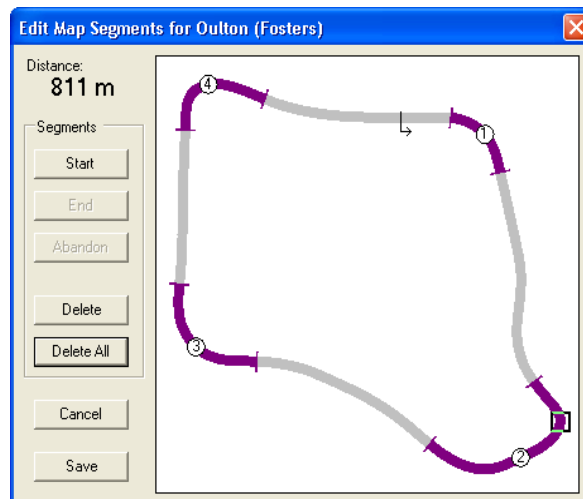

Figure 26 - Edit Map Segments Dialog (Deleting a Segment)
3. Place the cursor over the segment to be deleted by clicking the map anywhere in the segment. The **Delete** button is enabled (see Figure 26).